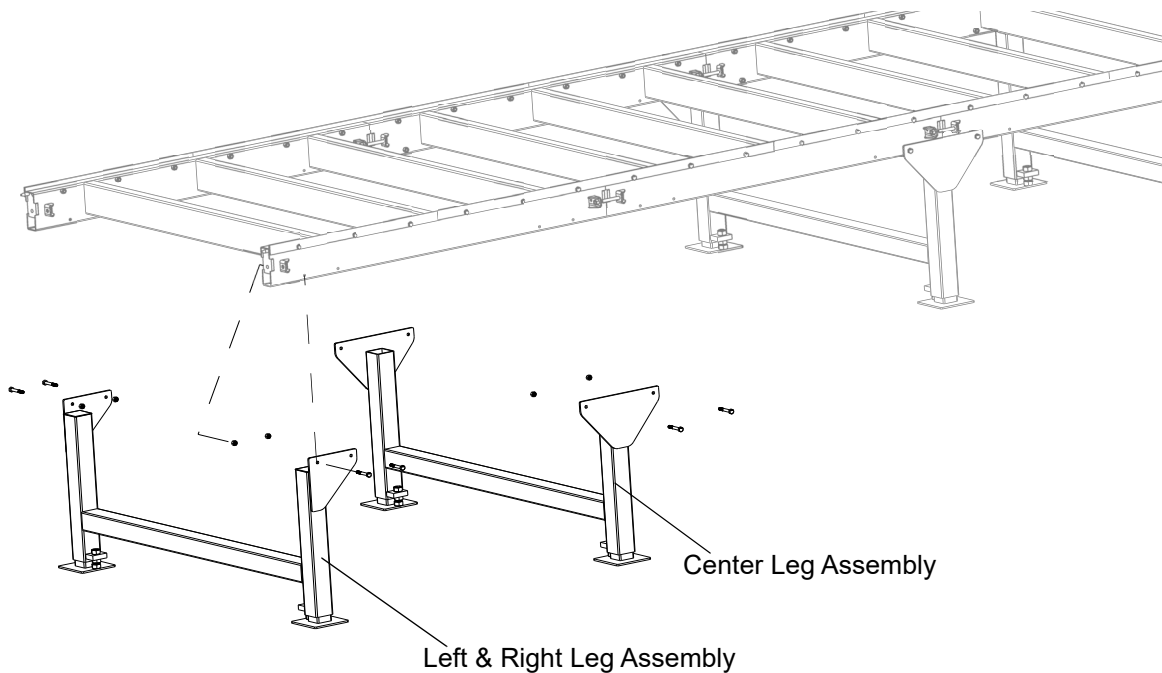

FIG. 3-6
1. Attach the Leg Assemblies to the Bed Sections as shown in Figure 3-6 using the provided M10-70mm Hex Head Bolts and M10 Nylon Lock Washers.